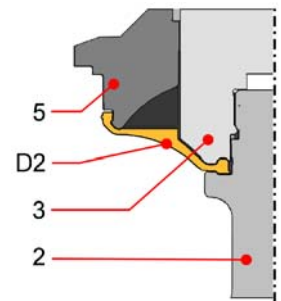

Fig. 3
*During assembly, tie diaphragm (D2) carefully on lantern (5) and on the upper piston (3). Fig. 3 /Page 7*